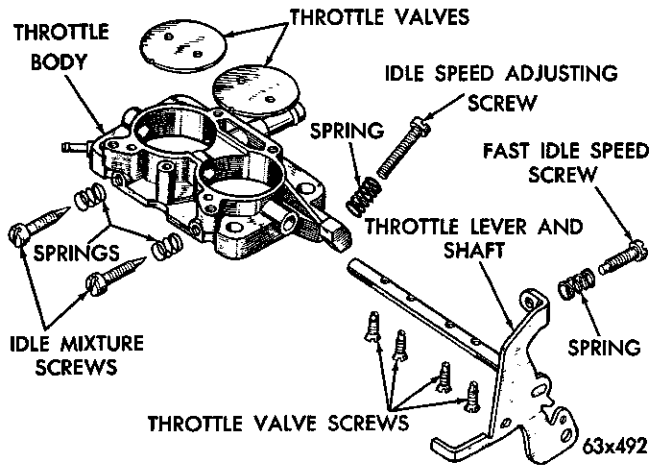

Fig. 10—Throttle Body (Disassembled View)
(3) Mark the valves to be sure each is replaced in the same bore from where removed (if replacing throttle shaft only. Fig. 10.)
(4) Remove the screws that hold the throttle valves to the shaft. Slide the valves out of shaft and bore.
(5) Slide the throttle shaft and lever out of the throttle body.
(6) Install the new throttle shaft and lever in the throttle body.
(7) Slide the valves down into position with the notches in the valves at the ports. Install new screws but do not tighten. Hold the valves in place with the fingers pressing on the high side of valves.
(8) Tap the valves lightly with a screwdriver to seat in the throttle bores. Holding the valves in this position, tighten the screws securely and stake by squeezing with pliers.
(9) Install the two idle mixture adjusting screws and spring in the throttle body. (The tapered portion must be straight and smooth.) If the tapered portion is grooved or ridged, a new idle mixture adjusting screw should be installed to insure having correct idle mixture control.